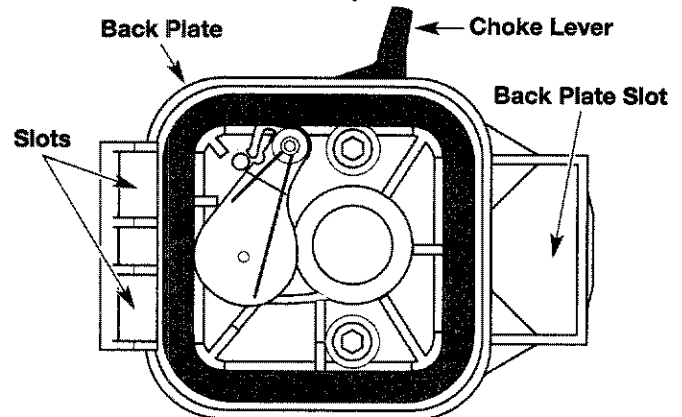

Fig. 49
6. Replace the filter (Fig. 49).
7. Reinstall the air filter cover. Position the hooks on the left side of the air filter cover into the slots at the left side of the back plate (Fig. 49).
8. Swing the cover to the right until the tab on the air filter cover snaps into place in the slot on the back plate (Fig. 49).